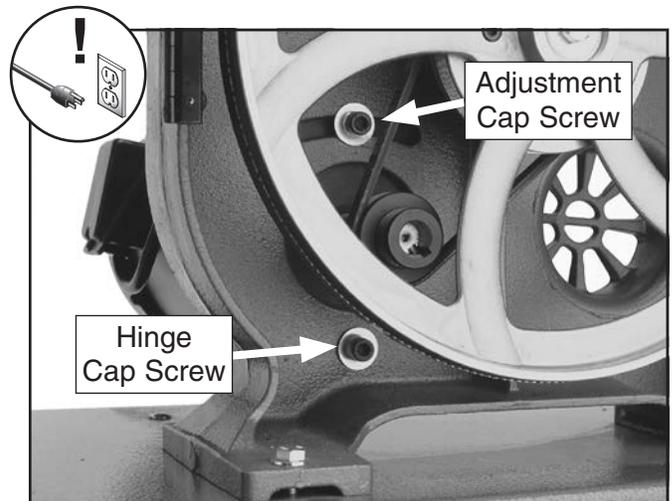

Figure 54. Locations of the motor adjustment and hinge cap screws.
2. Open the lower wheel cover and loosen the motor adjustment and hinge cap screws shown in **Figure 54**.